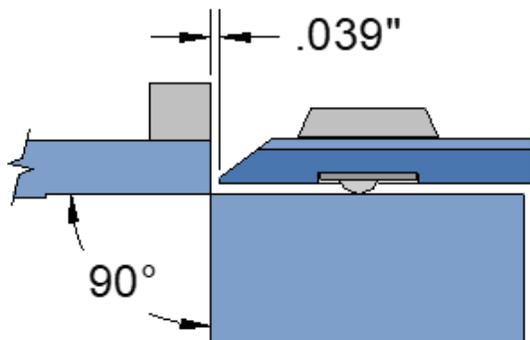

Figure 14-2
1. Raise the bending leaf up to a 90° position as shown in (fig. 14-2).